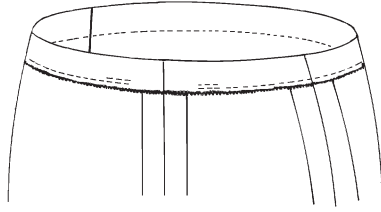

Fig. 12-8
3. Stitch a seam 1 inch (2.5 cm) from the folded edge of the casing. (Fig. 12-8) Begin stitching at the center, back, or side seam. Leave a 1½-inch (3.8 cm) opening to insert elastic. Backstitch at each end of the seam.